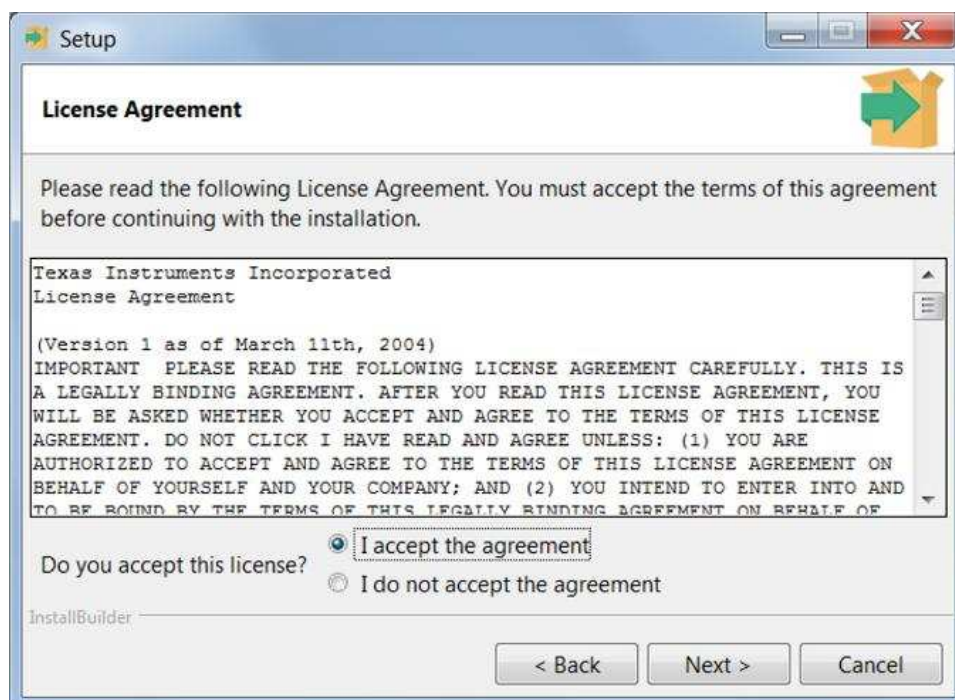

Figure 1-8. License Agreement
2. Read and accept the License Agreement and click Next, as shown in Figure 1-8.